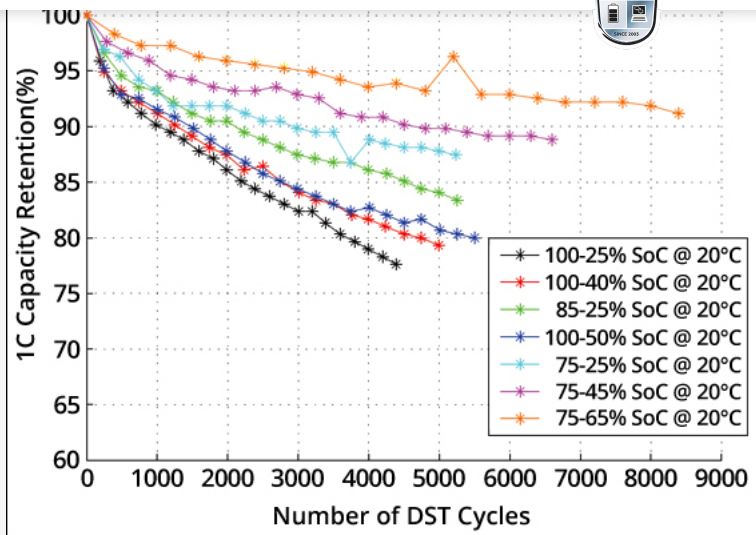

Figure 3: Capacity loss as a function of charge and discharge bandwidth* [3]
Figure 3 illustrates dynamic stress tests (DST) reflecting capacity loss when cycling Li-ion at various charge and discharge bandwidths. The largest capacity loss occurs when discharging a fully charged Li-ion to 25 percent SoC (black); the loss would be higher if fully discharged. Cycling between 85 and 25 percent (green) provides a longer service life than charging to 100 percent and discharging to 50 percent (dark blue). The smallest capacity loss is attained by charging Li-ion to 75 percent and discharging to 65 percent. This, however, does not fully utilize the battery. High voltages and exposure to elevated temperature is said to degrade the battery quicker than cycling under normal condition. (Nissan Leaf case)
- **Case 1:** 75–65% SoC offers longest cycle life but delivers only 90,000 energy units (EU). Utilizes 10% of battery.
* Discrepancies exist between Table 1 and Figure 3 on cycle count. No clear explanations are available other than assuming differences in battery quality and test methods. Variances between low-cost consumer and durable industrial grades may also play a role. Capacity retention will decline more rapidly at elevated temperatures than at 20°C.